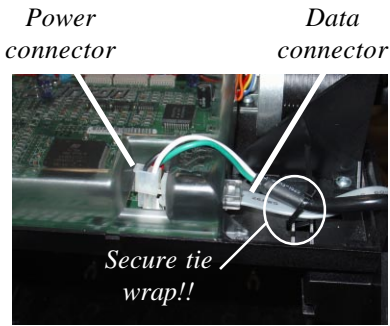
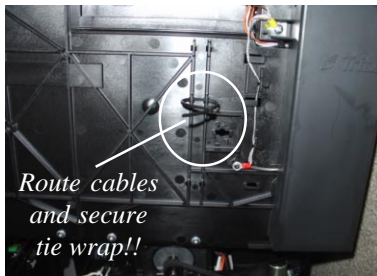

Figure 9. Data / power connections.
Figure 10. Cable tie wrap location for TDM-150 (side of dispenser).
8. **(For TDM-100)** Rotate the dispenser 90° counter-clockwise. Route the serial communications cable and power cable through the tie-wrap loop and plug the data cable into jack J11. Plug the DC power connector into jack J12 (Figure 9). **Pull tie wrap to secure cables to dispenser.**
8. **(For TDM-150)** Route the serial communications cable and power cable through the tie-wrap loop located on the side of the dispenser shown in Figure 10. Continue to route cables through second tie wrap as shown in Figure 9. Plug the data cable into jack J11. Plug the DC power connector into jack J12 (Figure 9). **Pull both tie wraps to secure cables to dispenser.**